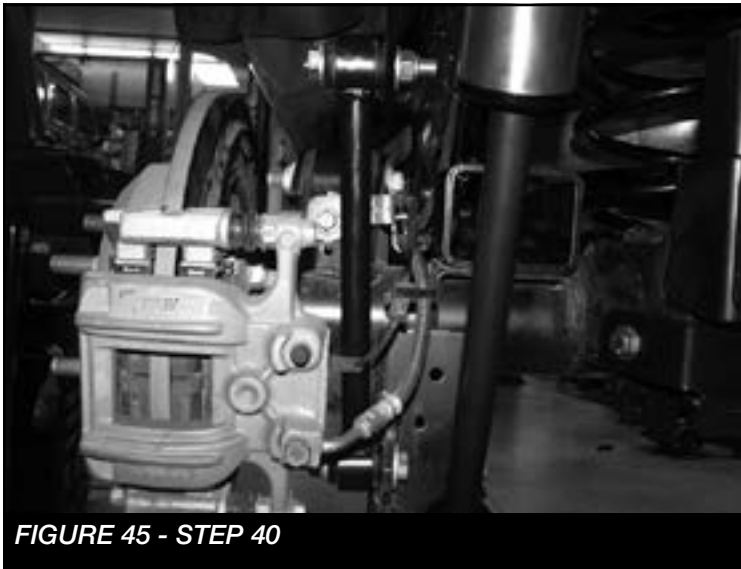

FIGURE 45 - STEP 40
40. Install the FT50048 (Bushings) and FT404739 (Sleeves) into FT50026BK (Rear sway bar links). Then, install the new links to the sway bar and sway bar mount on the axle using supplied M12 x 70mm hardware for the upper location and the factory for the lower. Torque to 65 ft-lbs **SEE FIGURE 45**